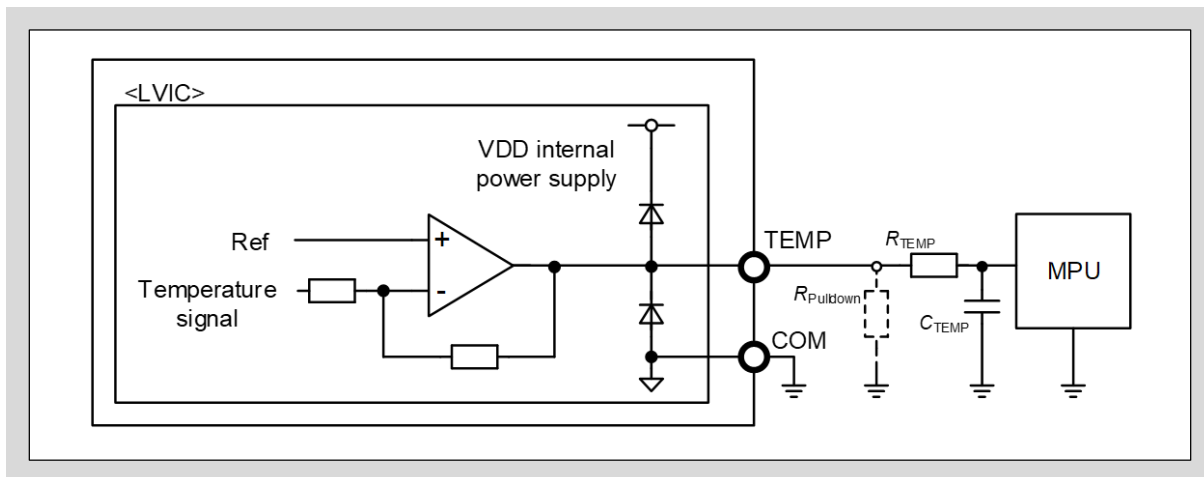

Fig.3-23 Recommended MPU I/O Interface Circuit of TEMP terminal
- As shown in Fig. 3-23, the temperature sensor output TEMP can be connected to MPU directly.